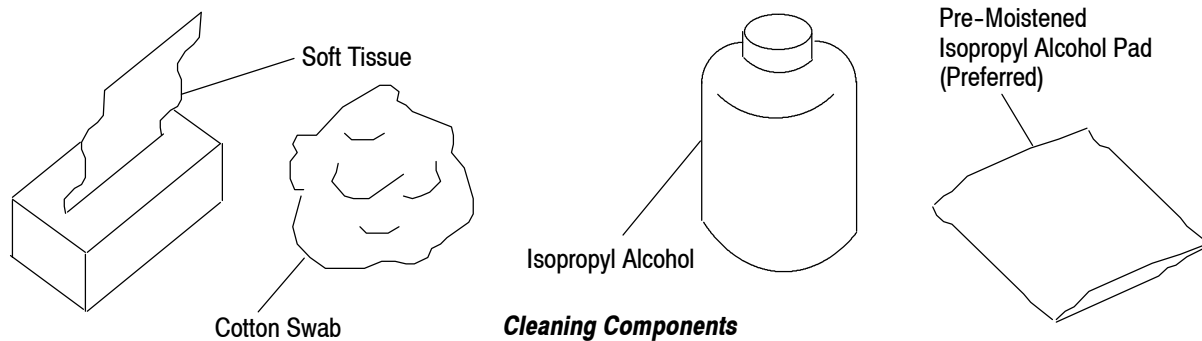

Figure 8
6. The terminus end and polishing bushing must be cleaned with an alcohol-soaked cotton swab or alcohol pad and dried. See Figure 8.